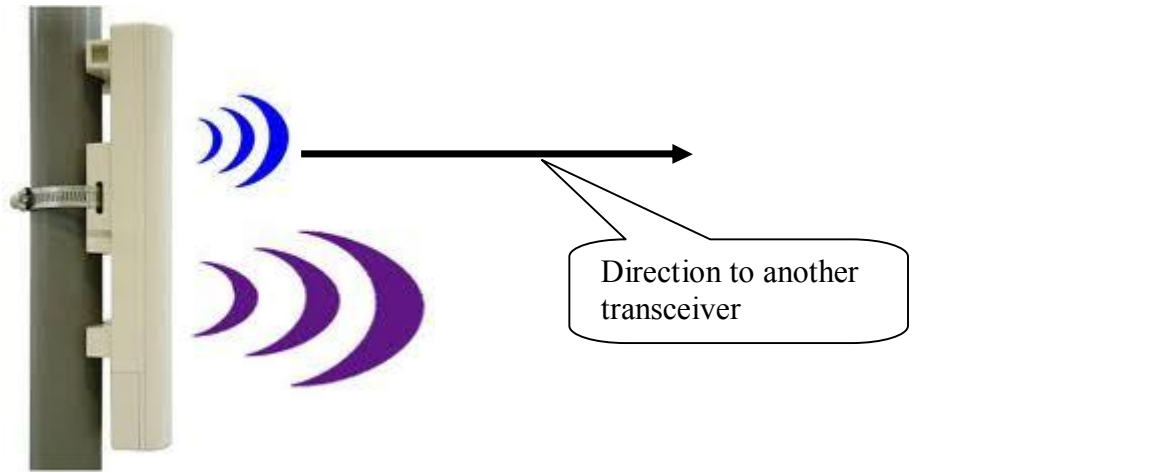

Figure 7 Transceivers HEXU-0010 and HEXU-0011 attached to the pole (CAT5 cable not shown)
5. Transceiver HEXU-0010 on an aluminum pole with a stake (Figure 7, one per range).
1. Transceiver HEXU-0011 on an aluminum pole (Figure 7, one per range) and a stake with CAT5 cable (Figure 10) attached.